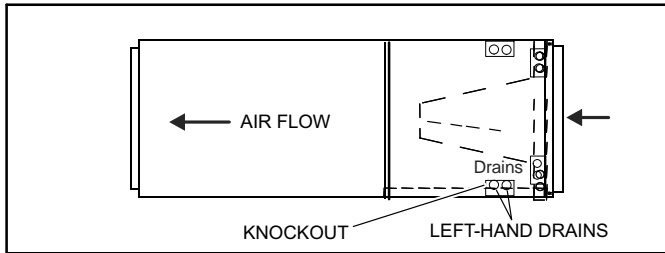

Figure 24. Left-Hand Discharge Configuration
4. The horizontal configuration is shown in figure 24.